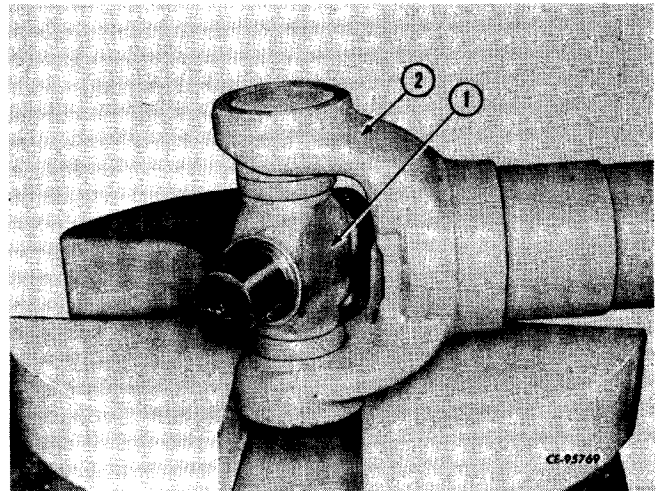

Figure 5-8
Place end of drive shaft on a shop press and press down on bearing. Spider (1, Fig. 5-8) will force lower bearing out of yoke (2).